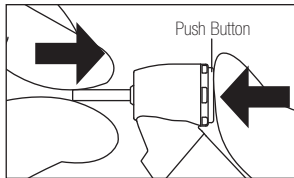

Fig. 2
- 1) Insert the bur into the bur insertion hole on the head of the handpiece. (Fig. 2)